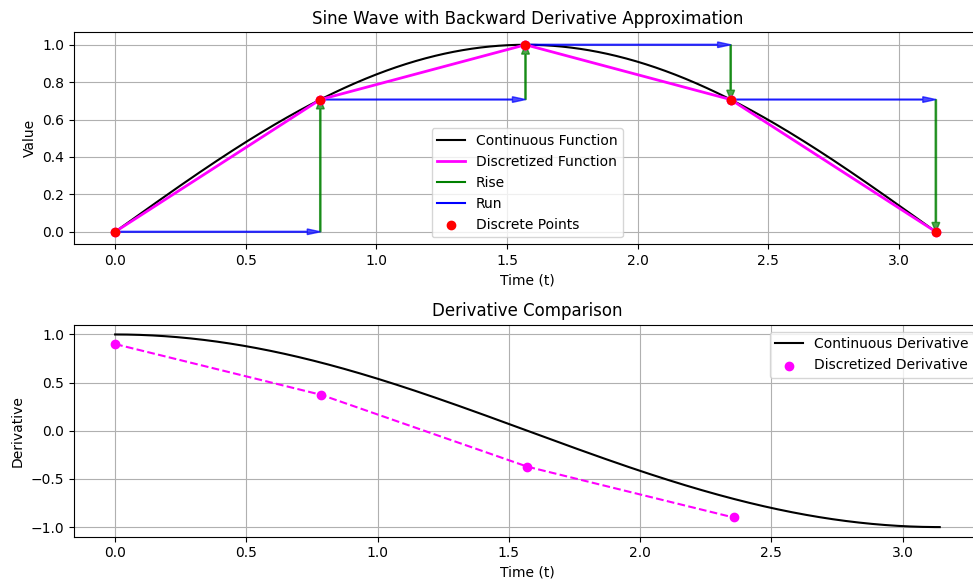

Figure 14: Backward Euler Discretization of the Derivative Term
- The derivative term is the rate of change of the error, and can help reduce overshoot. To approximate this derivative, we use the Backward Euler method, which calculates the derivative (slope) as the difference between the current error and the previous error, divided by the timestep (slope =  $\frac{\text{rise}}{\text{run}}$ ). See Figure 14 for a visual representation of the Backward Euler method.